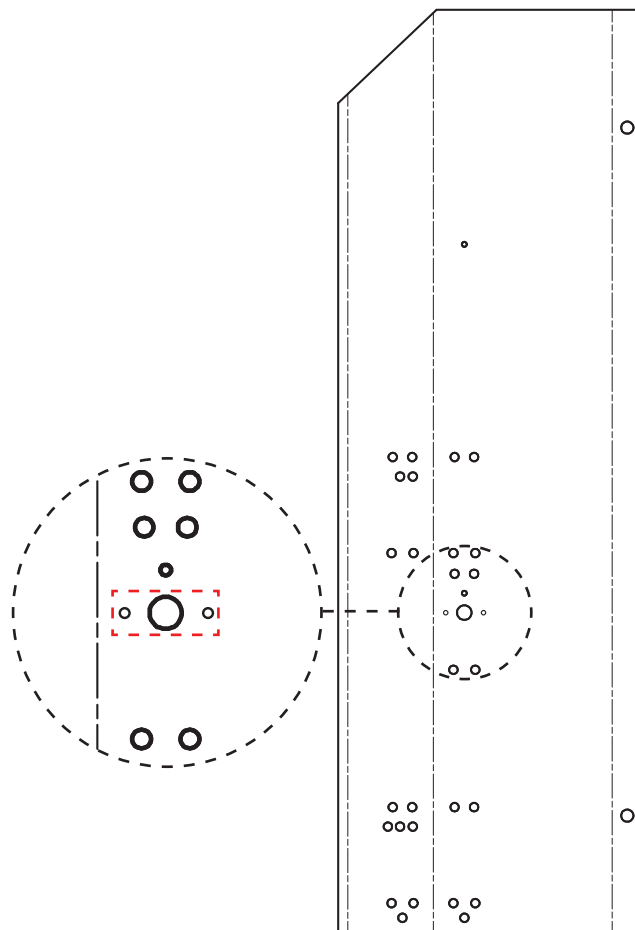
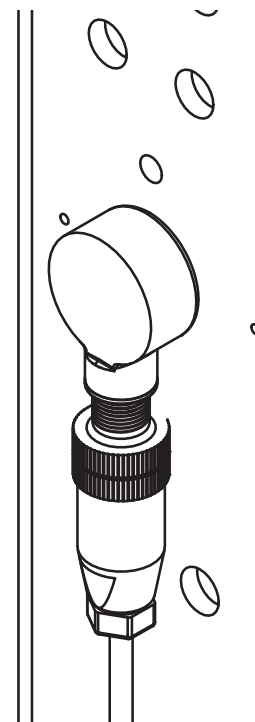

Figure 30
Figure 31
1. Using included screws and lock nuts, attach sensor and reflector to highlighted holes in Figure 30. See Figures 31 and 32 for example.